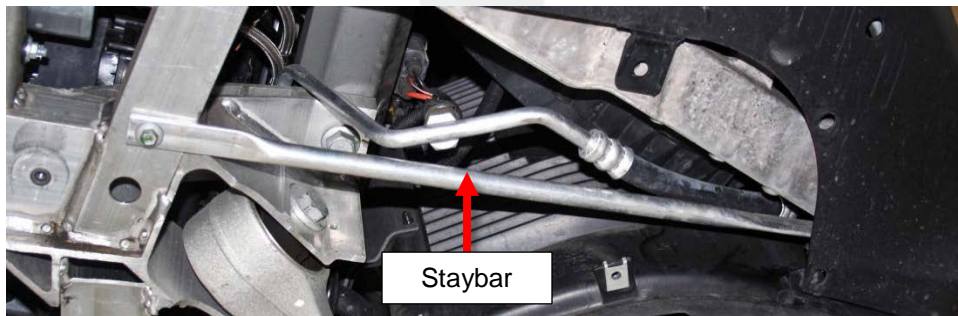

Figure 2 (LH staybar shown, RH similar)
2. Inspect the vehicle for staybars (Figure 2). If staybars are installed, remove them from the front subframe and front bumper carrier and discard.